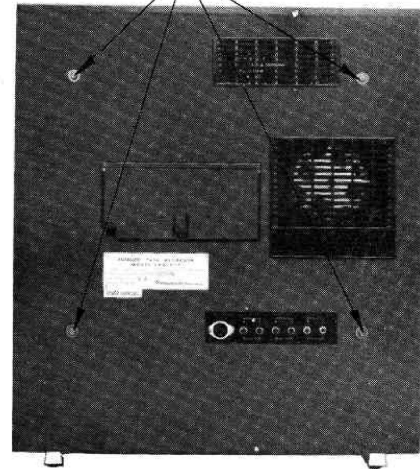

Fig. 20
- 3) Remove four chassis setscrews as shown in Fig. 20.